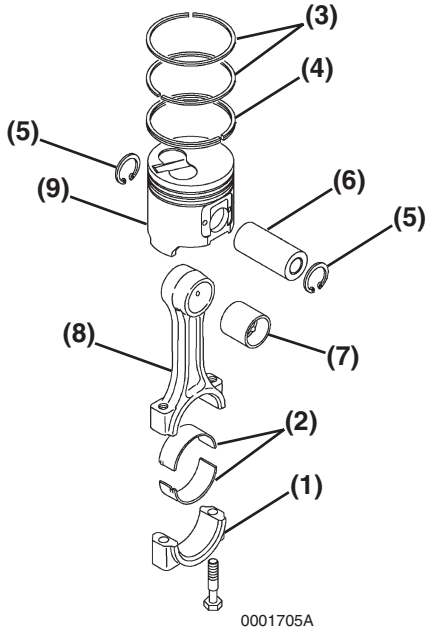

Figure 6-53
11. Remove the bearing inserts (**Figure 6-53, (2)**).
12. Remove the compression rings (**Figure 6-53, (3)**) from the piston using a piston ring expander.
13. Remove the oil ring (**Figure 6-53, (4)**) from the piston using a piston ring expander.
14. Remove the circlips (**Figure 6-53, (5)**) from the wrist pin.
15. Remove the wrist pin (**Figure 6-53, (6)**) and connecting rod (**Figure 6-53, (8)**) from the piston (**Figure 6-53, (9)**).